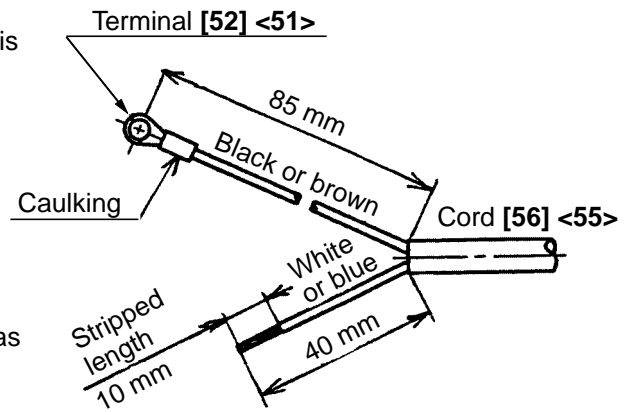

Fig. 5
- 1) Remove the standard cord (cord armor is integrally molded) according to the procedure of 8-1 (3).
- 2) Strip the coating on the internal wire of the Cord [56] <55> about 10 mm from the tip and crimp the Terminal [52] <51> to the brown or black internal wire as shown in Fig. 5.